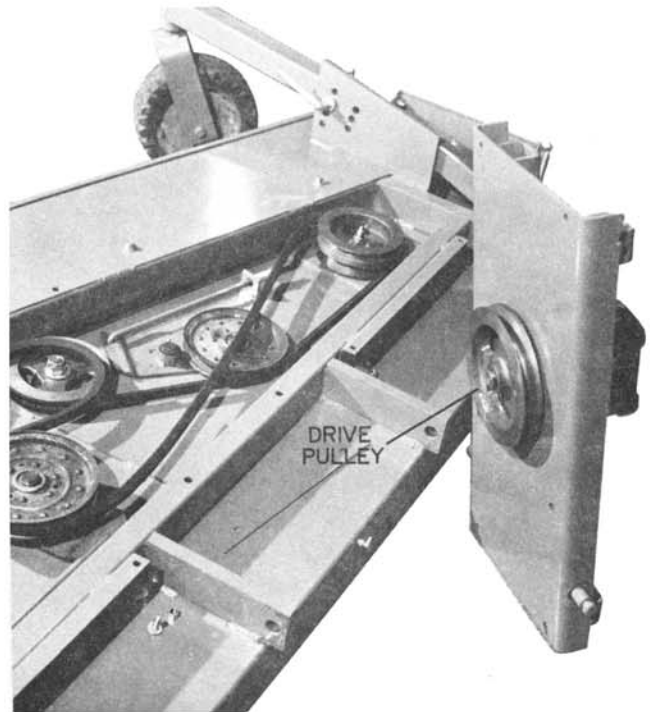

fig 21
9. Lift gear case weldment as far as bolt will allow and place belt around drive pulley shown in fig 21.